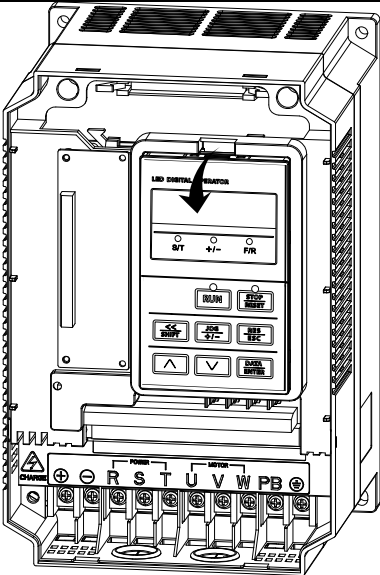

Figure 2-4 Disassemble the Keypad
- Disassemble the keypad: Put your fingers in the insert on the top of keypad, press down slightly, and pull outwards, then the keypad can be removed. See Figure 2-4.